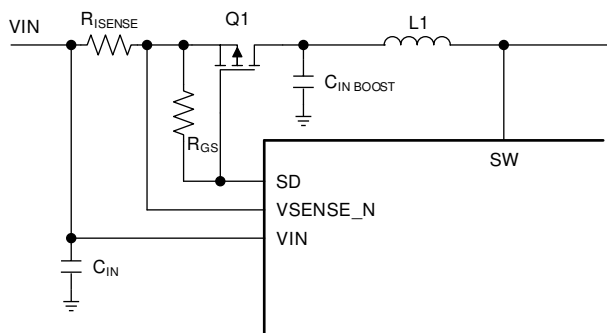

Figure 14. Power-Line FET Control Schematics
The LP886x-Q1 has a power-line FET control feature. It has a control pin (SD) for driving the gate of an external power-line P-Channel MOSFET. This feature grants LP886x-Q1 the ability to immediately cut-off the power part of backlight system when failure occurs, protecting other parallel power systems from being impacted. In addition, the feature could smooth the inrush current during powering-up by turning on the power-line FET gradually. In SOFT START state, the SD pin slowly increases the sink current until it reaches 230 μ A. An example schematic is shown in Figure 14.